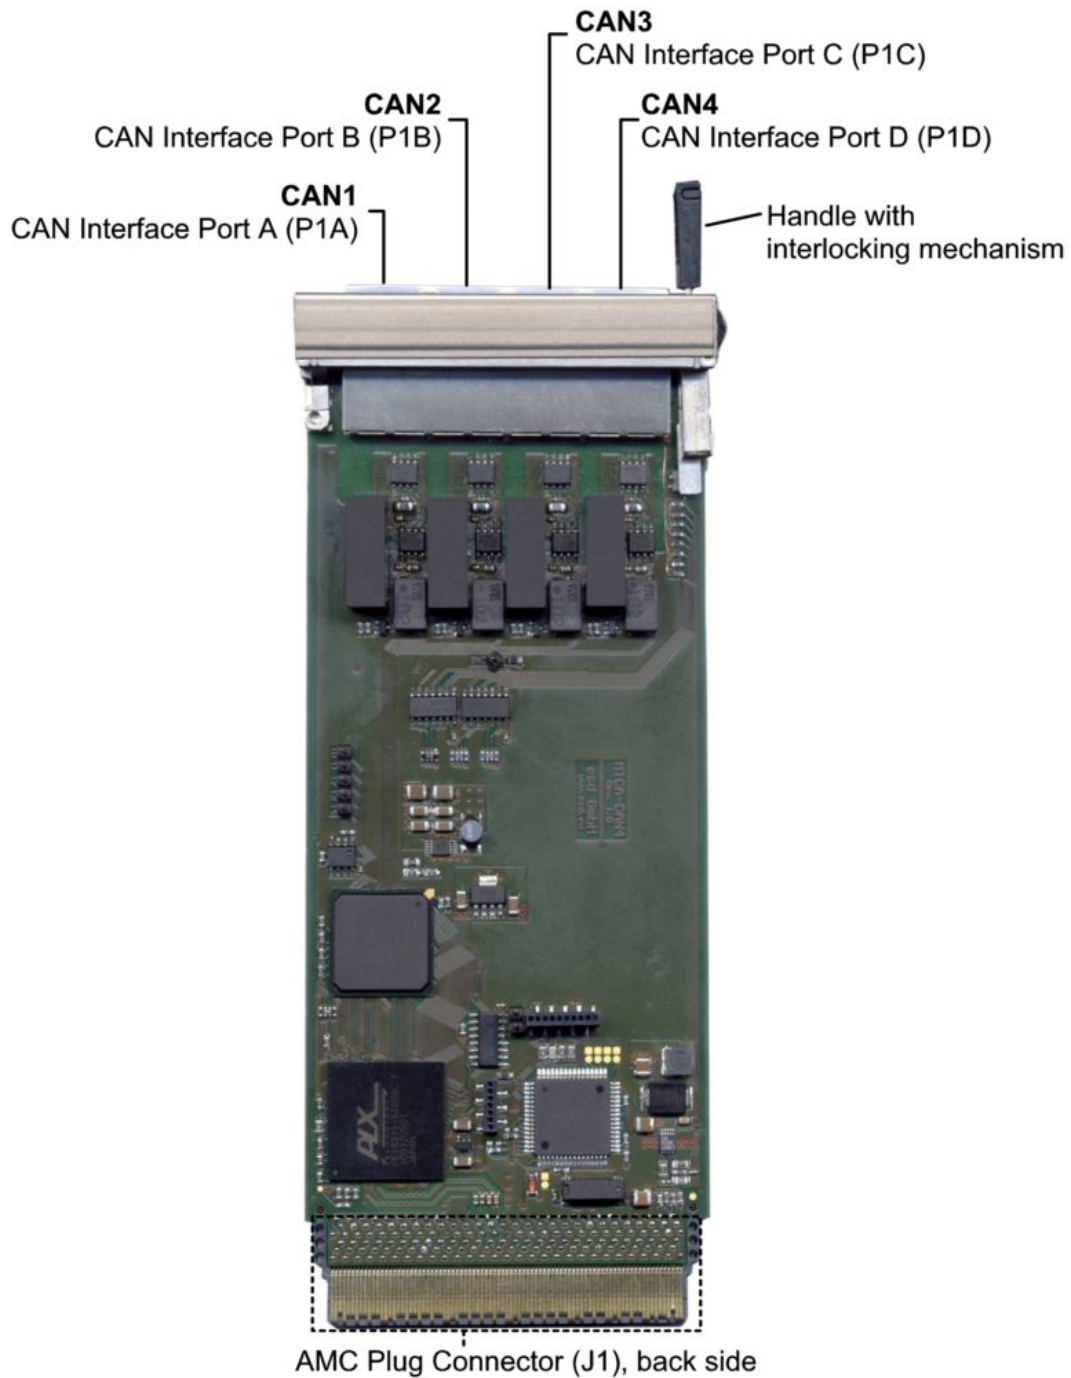

Figure 2: PCB top view
2. Fix the AMC-CAN4 by pushing the handle with interlocking mechanism (see figure 2).
3. Connect the RJ45 connectors (P1A - P1D) in the front panel (see figure 2) to the CAN bus, e.g. via the optional AMC-CAN-RJ45-DSUB9 cable (see page 29) RJ45 to DSUB9 male.